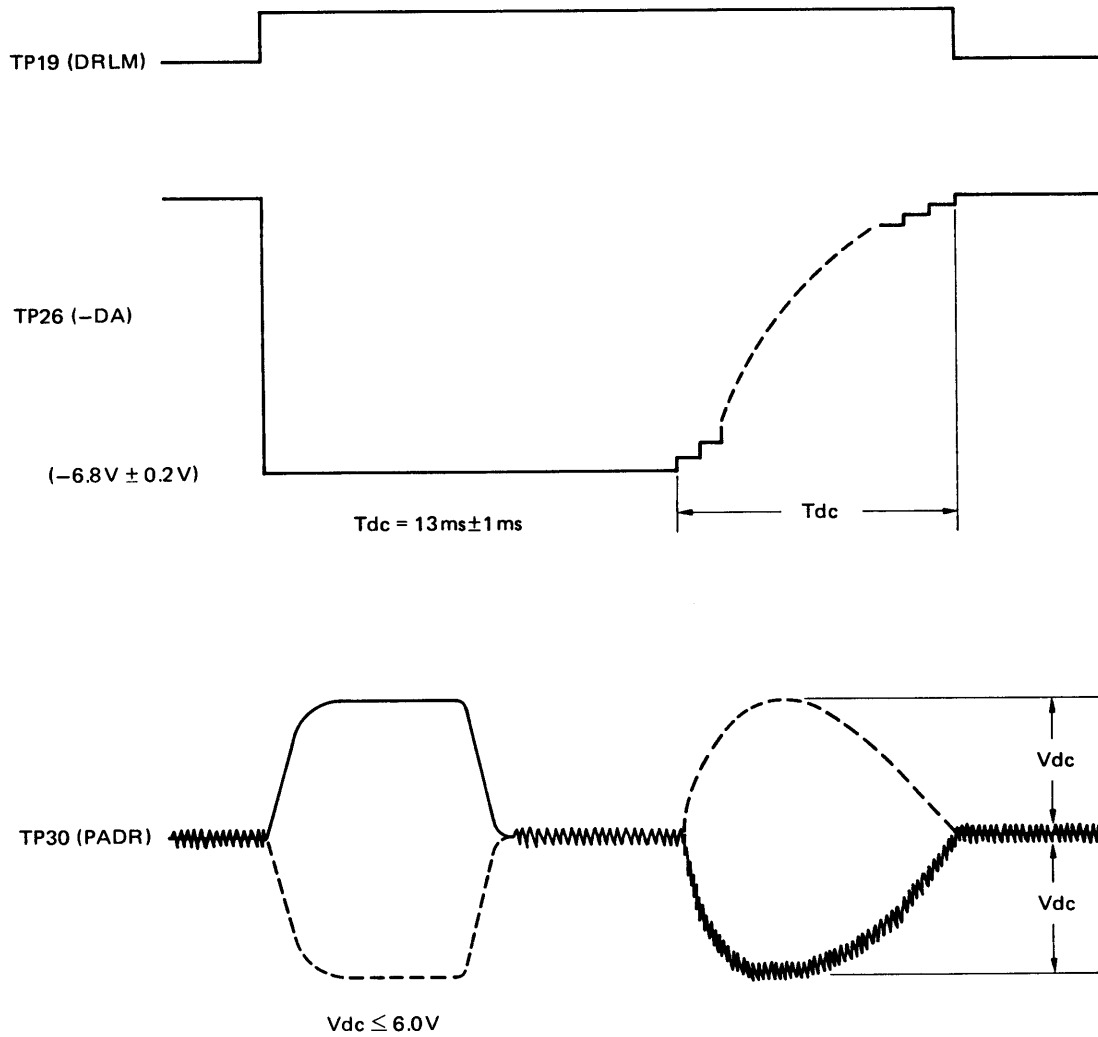

Figure 6-6-8 Positioning Time Adjustment
- (1) Confirm that unit has normal status.
- (2) Issue the alternate seek command between Cylinder 0 and 512 repeatedly.
- (3) Connect the test point TP26 (-DA) to an oscilloscope and trigger with the negative going edge of the signal (DC coupled).
- (4) Adjust the decelerate time (T_{dc}) with a potentiometer RV1 to $13\text{ms} \pm 1\text{ms}$.
- (5) Connect the test point TP30 (PADR) to an oscilloscope triggering with the positive going edge of TP19 (DRLM).
- (6) Check the V_{dc} amplitude. If the V_{dc} amplitude is greater than 6.0V, adjust the potentiometer RV1 to be equal to or less than 6.0V. In this case, the specified T_{dc} may be greater than the specified time in item (4).
- (7) After the Positioning Time adjustment, confirm that the Overshoot adjustment is correct. Refer to Figure 6-6-8.